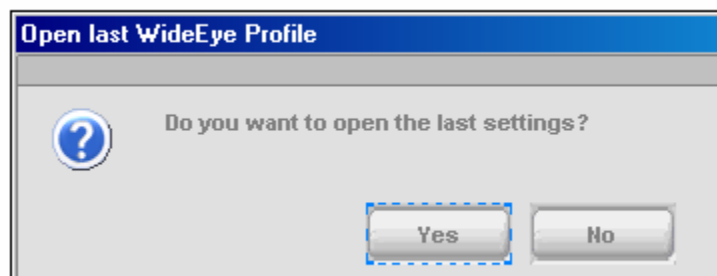
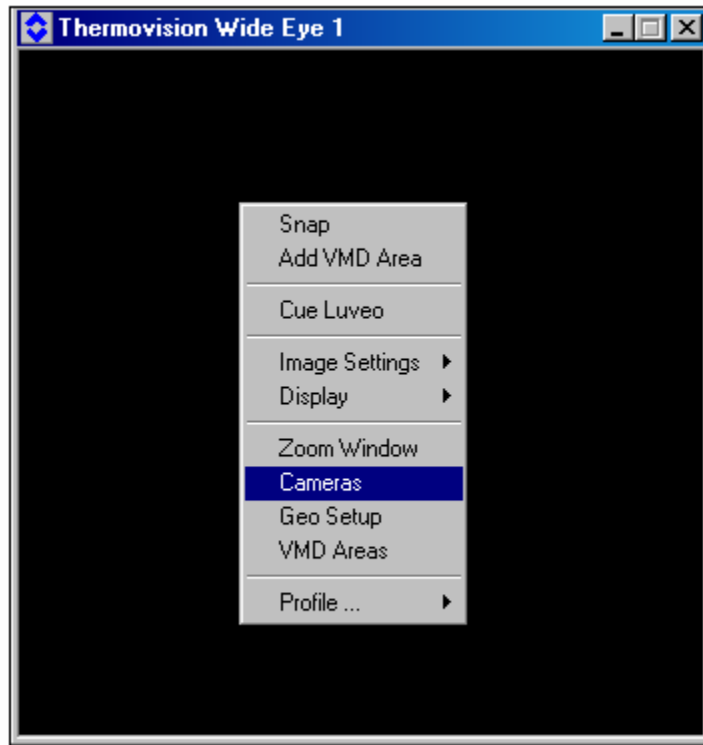

Figure 10 – Open Saved Settings
Figure 11 – Opening Cameras
2. Select **Yes** to start with the last settings or **No** for new settings. **Yes** should be selected if the WideEye has been powered up and already setup, and if you have previously saved the WideEye configuration in the Luveo Console. **No** should be selected if you do not want to use previously saved WideEye settings. See Figure 10 – Open Saved Settings. Note that for fresh configuration you will be taken directly to Figure 11 – Opening Cameras, where you need to right click on the ThermoVision WideEye window.
When you select **No**, for new settings, right click on the ThermoVision WideEye window. See Figure 11 – Opening Cameras.